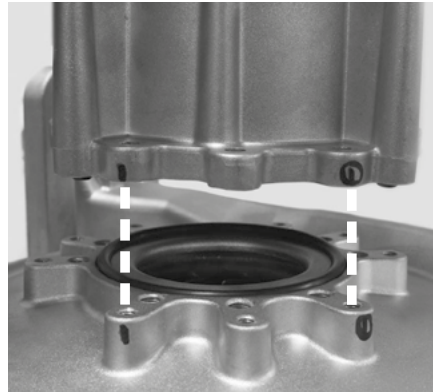

Figure 12 - Proper venturi and fan alignment
- 17** Install the new venturi to the fan. Reference the orientation mark on the old venturi to position the new venturi properly as shown in Figure 12. Use the screw hole marks on the fan to properly install the four (4) screws previously removed in **Step 13**.